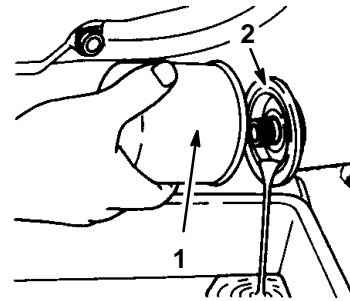

Figure 20
4. Place a suitable drain pan under the oil filter connection (Fig. 20).